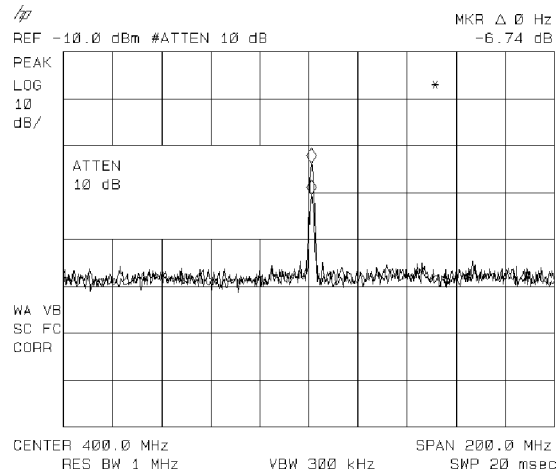
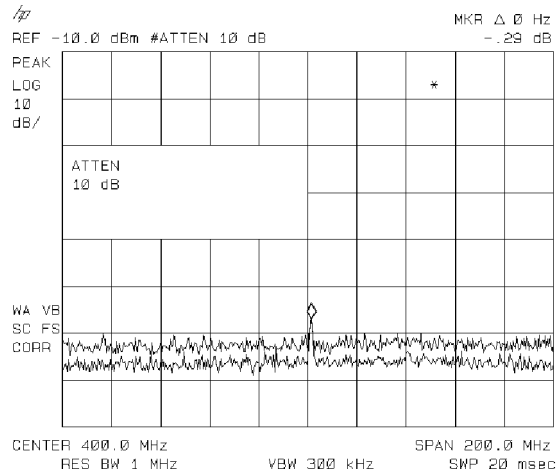

Figure 6-22. RF Attenuation of 10 dB
Figure 6-23. No Harmonic Distortion
5. Next, increase the RF attenuation by 10 dB: press **(AMPLITUDE)**, **ATTEN AUTO MAN**, and the step-up key **(↑)** once. (See Figure 6-22.)
If the responses in trace A and trace B differ, as in Figure 6-22, then attenuation is required. If there is no change in the signal level, the distortion is not caused internally. For example, the signal amplitude in Figure 6-23 is not high enough to cause internal distortion in the spectrum analyzer so any distortion that is displayed is present on the input signal.